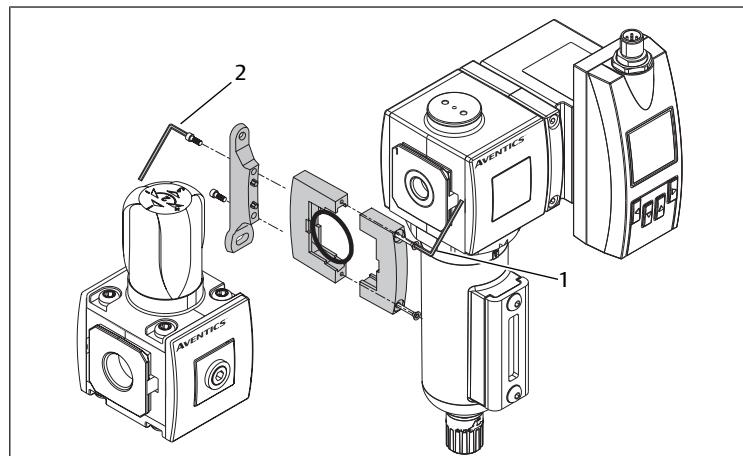

Fig. 7: Assembly with block assembly kit
- Mount the product with the block assembly kit. See → Fig. 7.